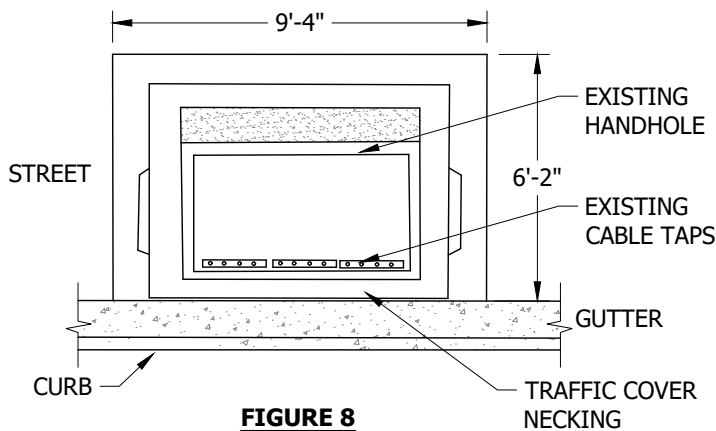

FIGURE 8
- B. AFTER THE LOCATION IS ESTABLISHED, MARK OUT DIMENSIONS FOR THE EXCAVATION WIDTH, LENGTH AND DEPTH PER FIGURE 8. THE WIDTH AND LENGTH DIMENSIONS GIVEN ALLOW AN EXTRA 8 INCHES FOR SETTING THE SUBSTRUCTURE.